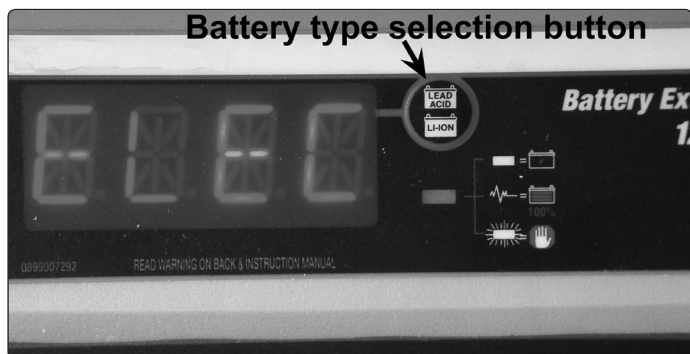

fig.2
6.3.4. Select the battery type, see fig.2.